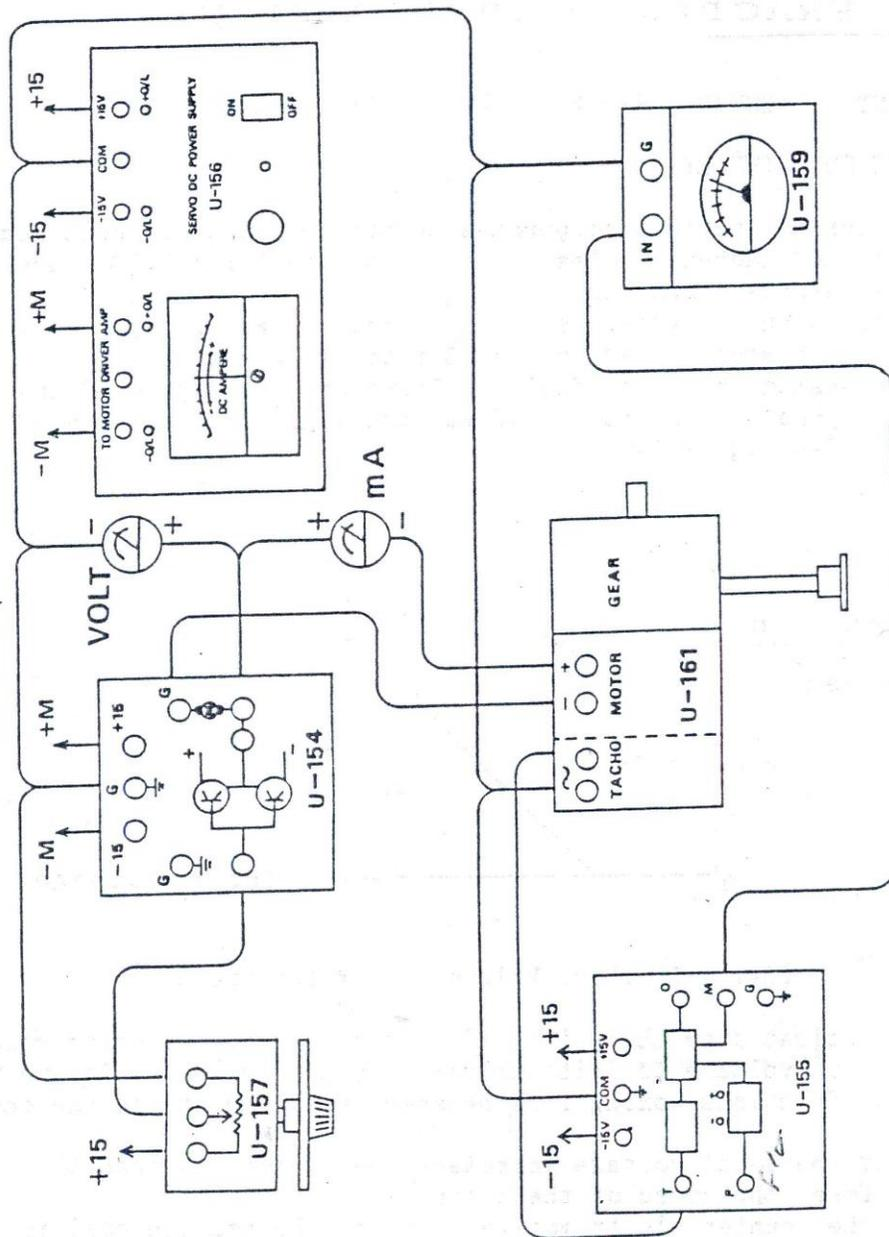

Fig. 1-2 Wiring Diagram of Experiment 1
1. Referring to Figure 1-2, wire all the modules as needed on either a separate panel or on the top cover of ED-4400.